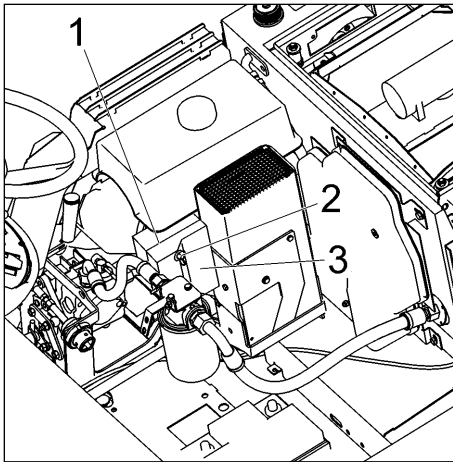

Fig. 25
- Unscrew wing screw (Fig. 25/2) and remove filter cap (Fig. 25/3) with filtering insert.